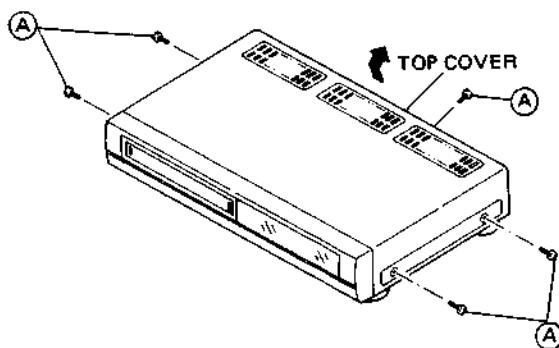

Fig. 1-1-1 Top cover
1. Refer to Fig. 1-1-1 and set for the EJECT (Stop) mode and disconnect VCR from AC power.